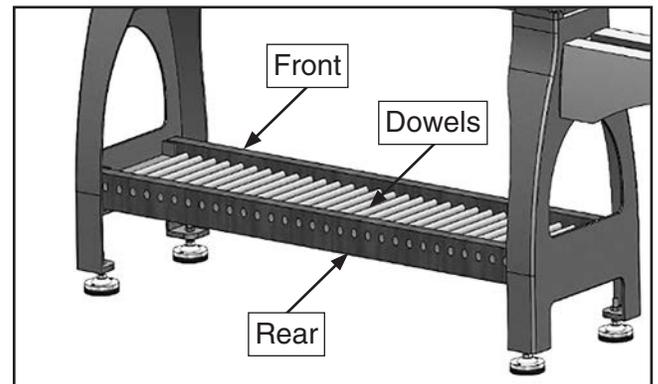

Figure 18. Boards and dowels installed in shelving option three.
2. In one 2x6, drill 5/8" holes all the way through board. This board will be installed on rear of lathe (see **Figure 18**). On other 2x6, drill holes only deep enough to secure dowel rods. This board will be installed on front of lathe.